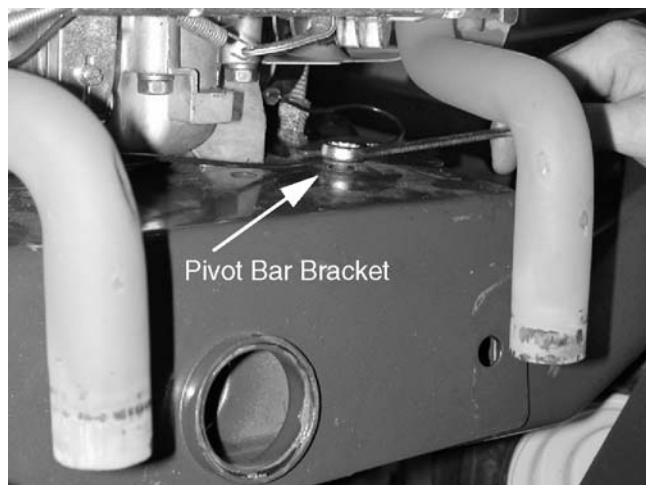

Figure 11-62
15. Unbolt the pivot bar bracket from the top of the frame using a 1/2" wrench. See Figure 11-62.